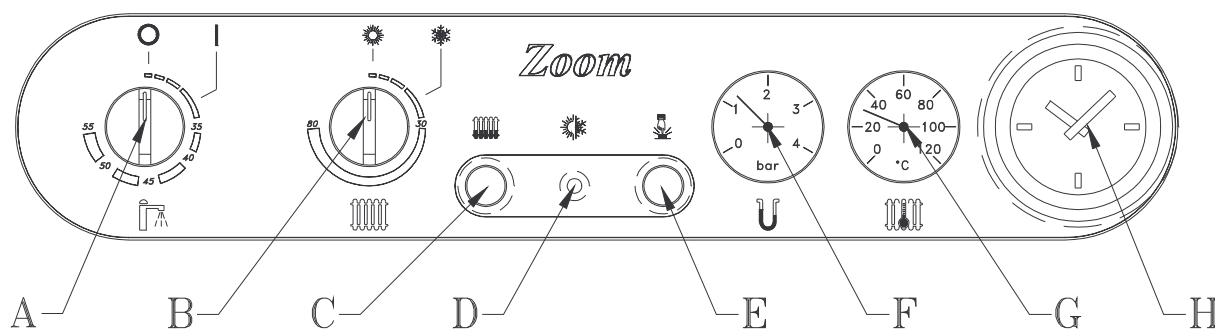

Fig.1
IGNITION OF THE MAIN BURNER (Fig. 1)
- Check that the water pressure to the system is 1 bar (pressure gauge F, Fig. 1). If the pressure is below 0.5 bar, fill the boiler again (Fig.23/B).
This function activates the pump and the gas burner (at minimum rated output), **as long as** the boiler is electrically driven and the knob **A**, Fig. 1, is turned to "I". When a temperature of around 35°C is reached in the heating circuit, the "antifreeze system" is automatically deactivated. It is good practice, however, to protect the heating circuit with a suitable, specific chemical additive (antifreeze).
- Set the boiler temperature (knob B, Fig. 1) between 50 - 80 °C
Water pressure in the system (see F Fig.1)
Producing hot water (see A Fig.1)
- If after a few attempts at unblocking the ignition device **E** Fig.1, the burner does not fire, it could be due to a fault or due to a failure in the gas supply, call out the installing firm.